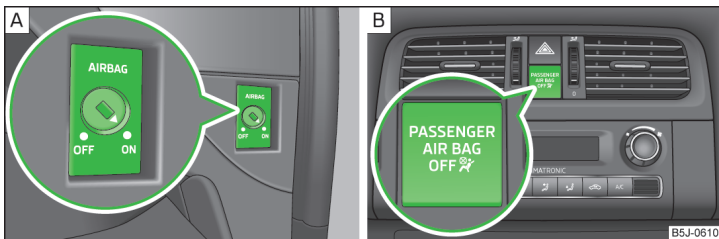

Fig. 12 Key-operated switch for the front passenger airbag / warning light for front seat passenger airbag deactivation
- The warning light **OFF**  » Fig. 12 on page 21 - B comes on after the ignition has been switched on.
- Use the key to turn the slot of the key switch carefully into the position **OFF** » Fig. 12 - **A**.
- Check that the warning light **OFF** under the text **PASSENGER AIR BAG** » Fig. 12 - **B** lights up after the ignition is switched on.
- Use the key to turn the slot of the key switch carefully into the position **ON** » Fig. 12 - **A**.